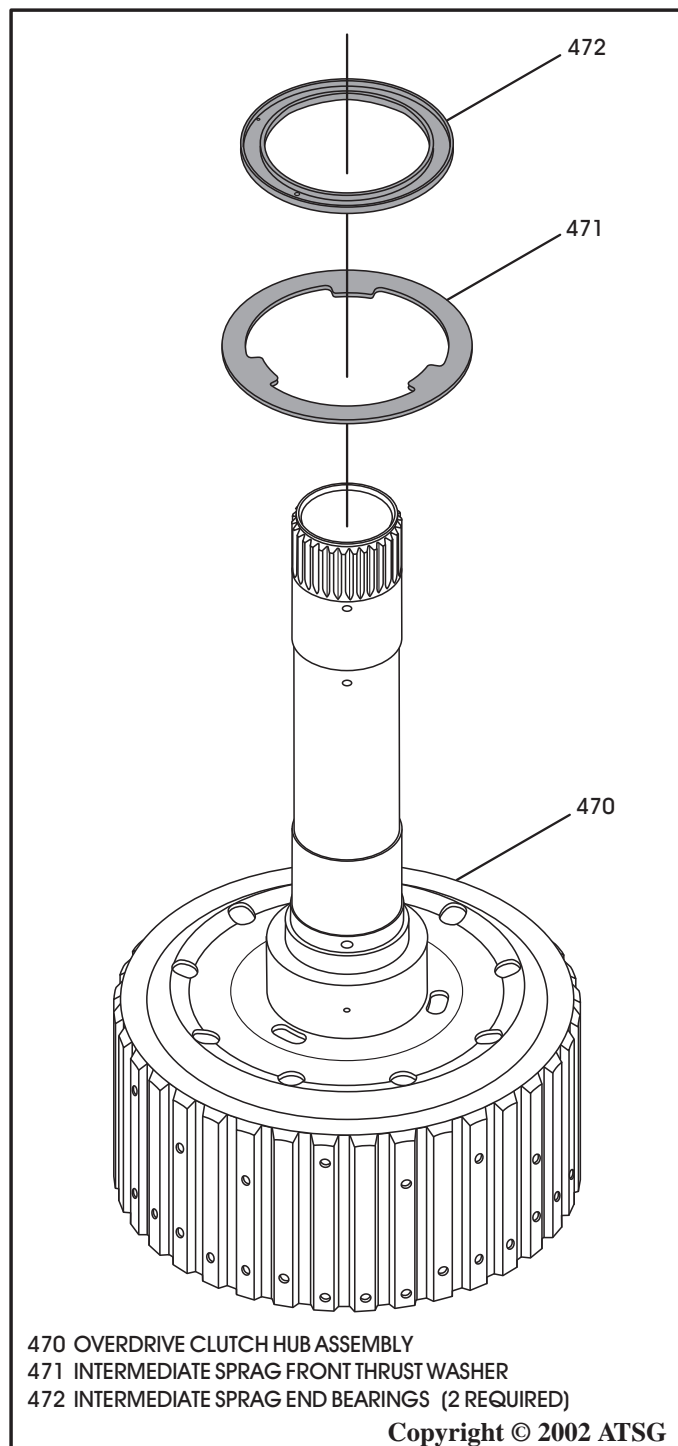

Figure 107
6. Place the overdrive clutch hub on a flat surface with shaft facing up, as shown in Figure 107.
7. Install intermediate sprag outer race thrust washer, as shown in Figure 107.
8. Install one intermediate sprag end bearing on top of the thrust washer in the direction shown in Figure 107.